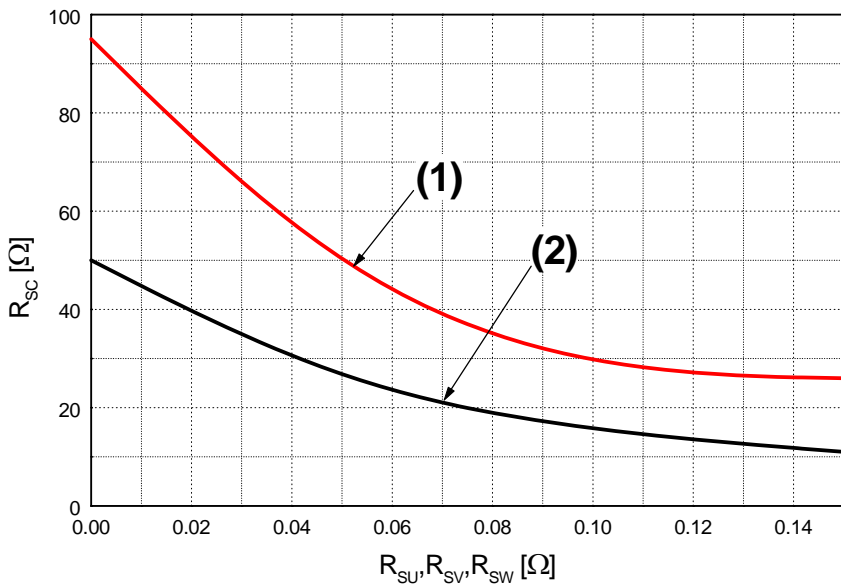

Fig. 7. R_{sc} Variation by change of Shunt Resistors (R_{SU}, R_{SV}, R_{SW}) for Short-Circuit Protection
| Sensing Voltage of IGBT Current | V _{SEN} | T _C = 25°C, @ R _{SC} = 50 Ω, R _{SU} = R _{SV} = R _{SW} = 0 Ω and I _C = 15 A (Note Fig. 7) | 0.45 | 0.51 | 0.56 | V |
- Short-circuit current protection is functioning only at the low-sides. It would be recommended that the value of the external sensing resistor (R_{SC}) should be selected around 50 Ω in order to make the SC trip-level of about 15A at the shunt resistors (R_{SU}, R_{SV}, R_{SW}) of 0Ω. For the detailed information about the relationship between the external sensing resistor (R_{SC}) and the shunt resistors (R_{SU}, R_{SV}, R_{SW}), please see Fig. 7.